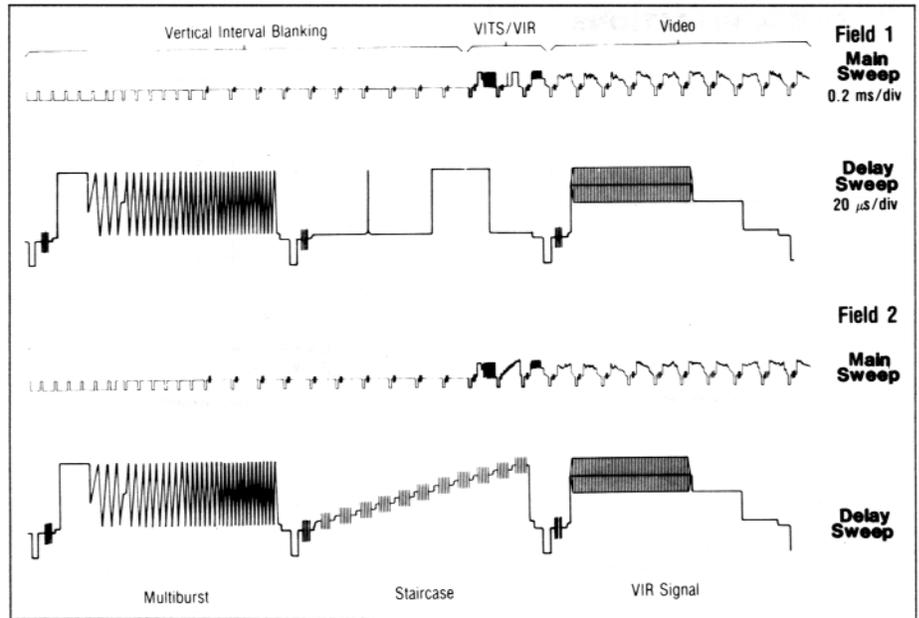

Fig. 45. Observing video signals using delayed sweep.
(Refer to Figs. 45 through 49)
3. Select vertical TV trigger coupling (TVV), select the channel one signal as the trigger source, and select negative trigger slope. Adjust the trigger level control for a display such as that shown in the top line of Fig. 45 (although the waveform will be compressed horizontally, the waveform in the illustration is expanded for clarity).
4. Set the delay Time/Div control to about 0.2 ms/div and set the oscilloscope to display the delayed sweep signal or, if desired, a mix of the main sweep and the delayed sweep. (A setting of 20 mS/div will give a display of about three lines of video—further expansion to less than three lines of video is possible with faster sweep speeds.) Adjust the delay time position control until the desired line(s) of video are displayed. If you wish to view the VITS/VIR lines, they are the 17th, 18th, and 19th lines in a video frame. Fig. 45 shows the main and delayed sweep of both field 1 and field 2.